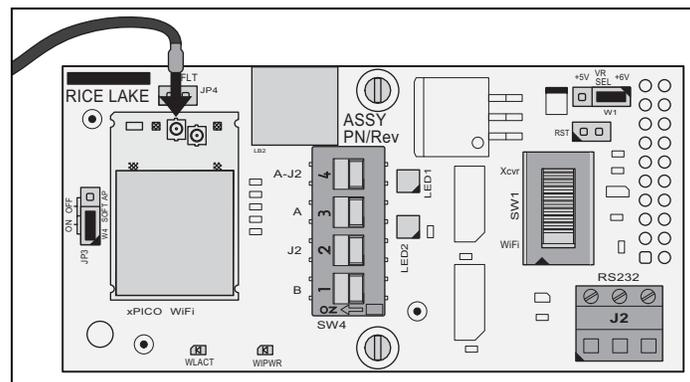

Figure 3. Antenna Connection Location
7. Connect the u-FI end of the antenna cable to the Antenna 1 connection on the WiFi module (Figure 3).